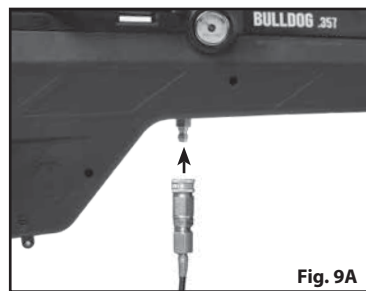

Fig. 9A
6. Attach the quick disconnect fitting from your filling equipment to the fill nipple on the airgun (See Fig. 9A).